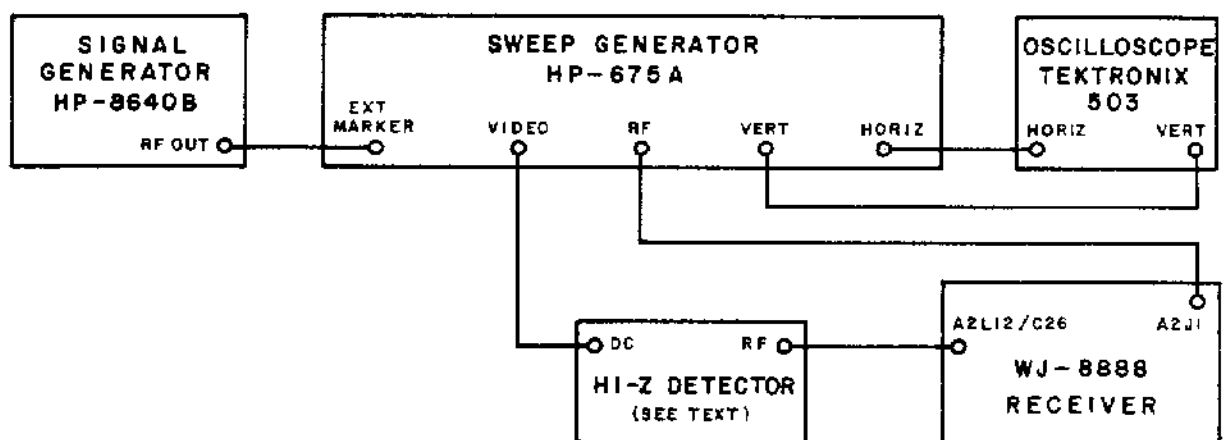

Figure 5-15. Test Setup, RF/IF Alignment
- (1) Rotate A2A1R16 fully counterclockwise and A2A1R6 fully clockwise.
- (2) Connect the equipment as shown in Figure 5-15. The RF end of the high impedance probe is placed at the junction of A2L12 and A2C26. Use the high frequency high impedance detector shown in Figure 5-2.